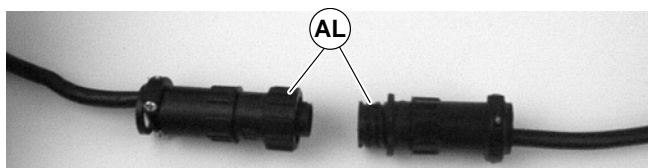

Figure 21
3. For DC variable speed motor, unplug motor cord at disconnect (AL of Figure 21).